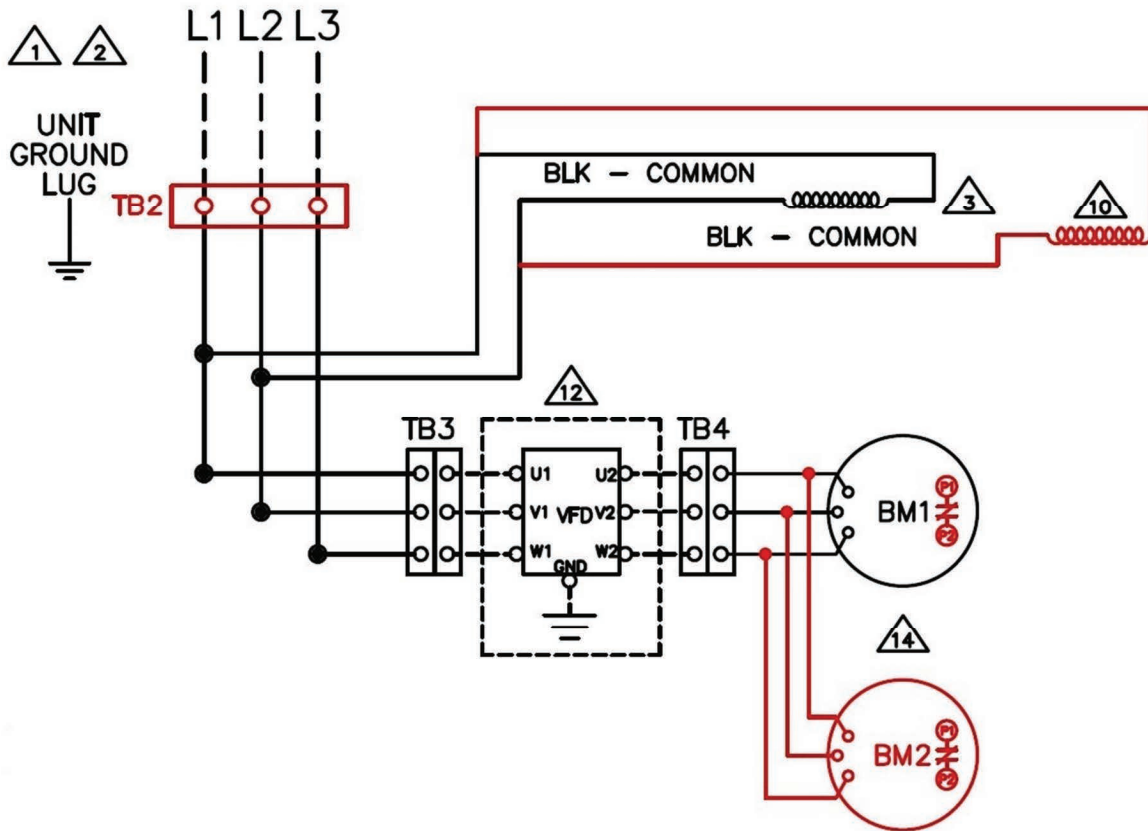

Fig. 4 — VFD Input and Output Power Connections, 50HQP Units
2. Make field wiring connections between VFD input terminals (U1, V1, and W1) and Terminal Block 3 (TB3) located in the electrical control box. See Fig. 4.
3. Make field wiring connections between VFD output terminals (U2, V2, and W2) and Terminal Block 4 (TB4) located in the electrical control box. See Fig. 4.